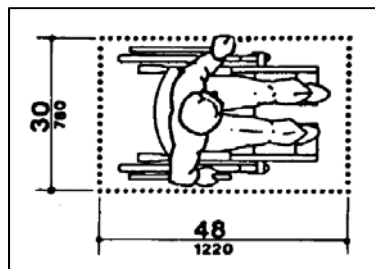
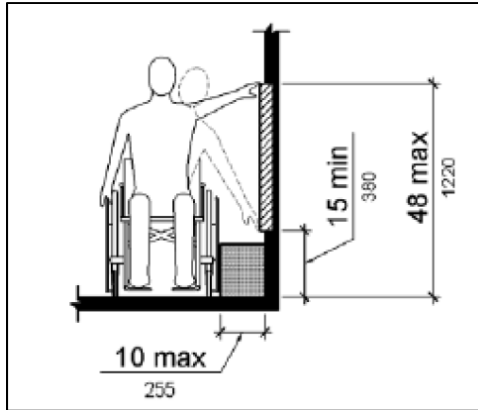

Figure 14 - Push Button Clear Space
Figure 15 – Push Button Horizontal Reach and Mounting Height
- When unconstrained or only constrained on all or part of one (1) or two (2) sides, a clear space 2.5 ft. x 4.0 ft. minimum is provided adjacent to each push button (see **Figure 14**). *PROWAG R404.3*
- When constrained on all or part of three (3) sides and the constrained depth exceeds 1.5 ft., a clear space 2.5 ft. x 5.0 ft. minimum is provided adjacent to each push button. *PROWAG R404.7.2.*
- Horizontal distances from the push button face to the edge of the clear space extension do not exceed 10 in (see **Figure 15**). *PROWAG R406.3*
- Push button mounting heights do not exceed 4 ft. above the finish surface (3.5 ft. above the finish surface preferred) (see **Figure 15**). *PROWAG R406.3; MUTCD 4E.08*